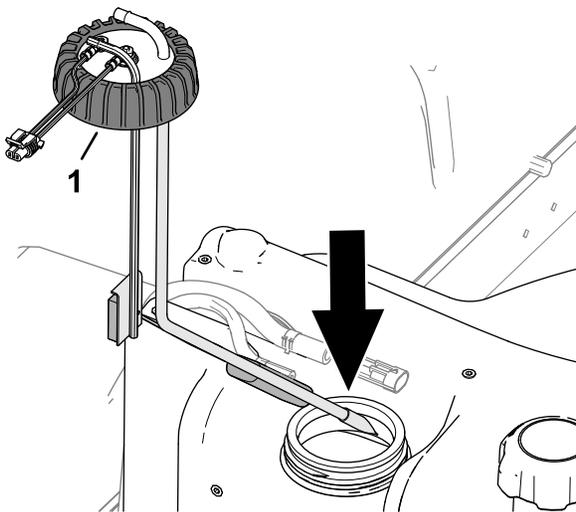

Figure 91
2. Carefully assemble the fuel pick-up tube and float into the fuel tank (Figure 91).